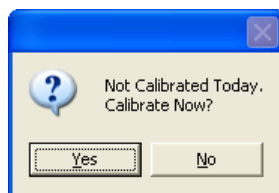
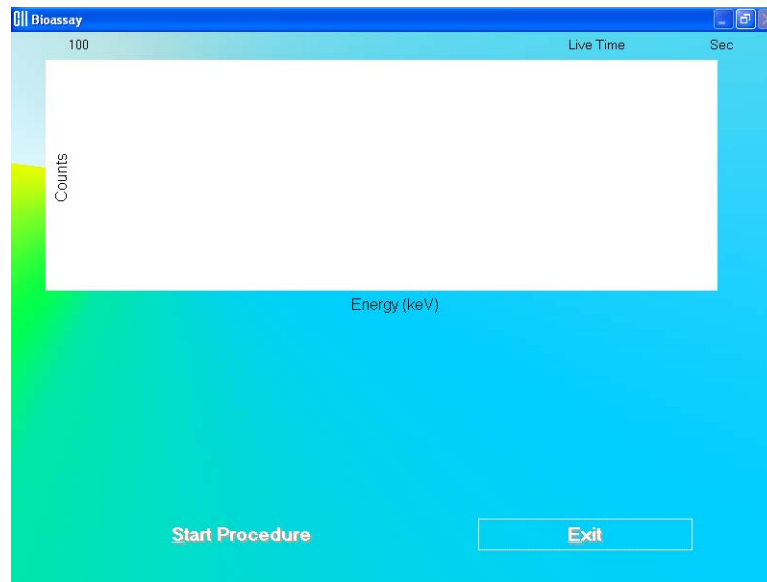

Figure 11-4
Figure 11-5
- Click the **Next** button or press *Alt+N*. The screen appears as shown in Figure 11-5.
Note: *If calibration has not been performed, you will be prompted with the screen as shown in Figure 11-4. After the calibration is complete, the program will return to the screen shown in Figure 11-5.*
To abort the procedure, click the **Yes** button or press the Y key. Figure 11-5 will re-appear. Click the **Start Procedure** button to restart the measurement or the **Exit** button to return to the Bioassay Setup screen (Figure 11-2).